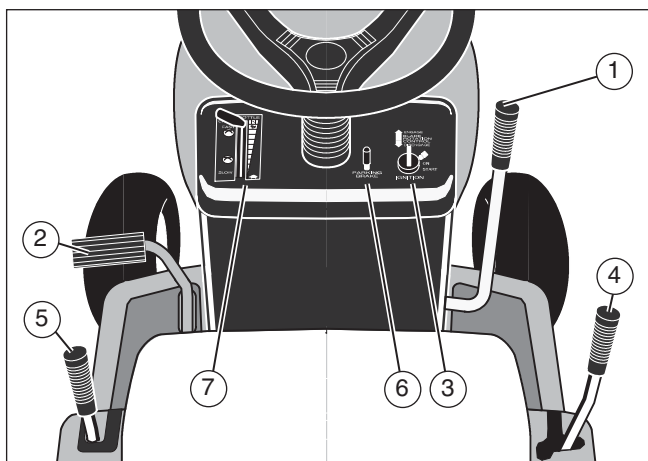

Figure 5
Blade Rotation Control (1): Use the blade rotation control to start and stop the rotation of the blade (see **Figure 5**).
Use the throttle control (7) to increase or decrease the speed of the engine (see **Figure 5**).
Use the blade rotation control (1) to engage the blade(s) (see **Figure 5**).
1. Before you start the engine, make sure the blade rotation control (1) is in the DISENGAGE position.
1. Completely push the clutch/brake pedal (2) forward to stop the unit. Keep your foot on the pedal (see **Figure 5**).
2. Move the throttle control lever (7) to the SLOW position.
3. To go forward, move the shift lever (4) to a forward speed setting. To go backward, move the shift lever to reverse.
4. Slowly release the clutch/brake pedal (2). Do not keep your foot on the pedal.
5. Move the throttle control (7) to the FAST position.
1. Completely push the clutch/brake pedal (2) forward (see **Figure 5**).
2. Lift the parking brake lever (6).
4. To release the parking brake, completely push the clutch/brake pedal (2) forward. The parking brake will automatically release.
To change the cutting height, raise or lower the lift lever (5) as follows (see **Figure 5**).
2. Move the blade rotation control (1) to the DISENGAGE position.
3. Move the shift lever (4) to the NEUTRAL position.
4. Set the parking brake (6).